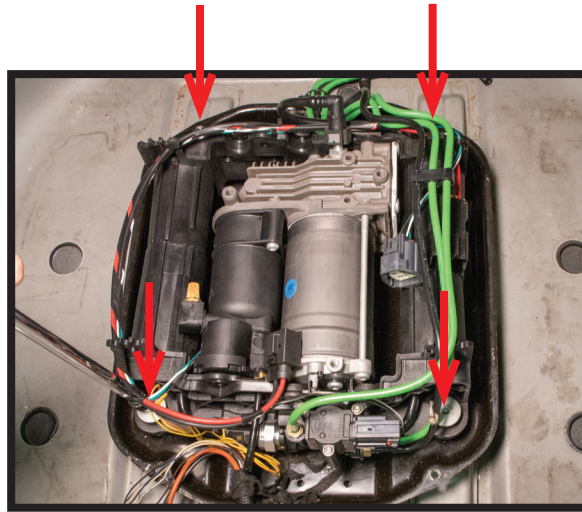

FIGURE 17
1. INSTALL THE COMPRESSOR ASSEMBLY INTO THE VEHICLE USING THE PRE-INSTALLED MOUNTING HARDWARE. (FIGURE 17)